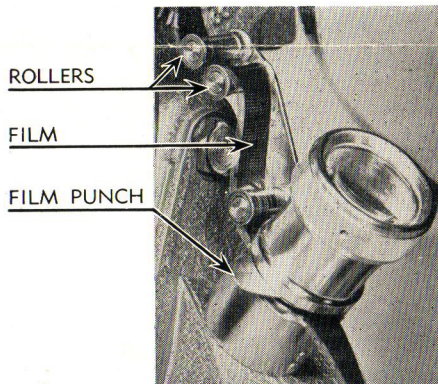

Fig. 1
2. Insert Viewer with Film Punch pointing directly to your left (as shown in Fig. 1).
5. Thread Film over and under rollers. (as shown in Fig. 1).